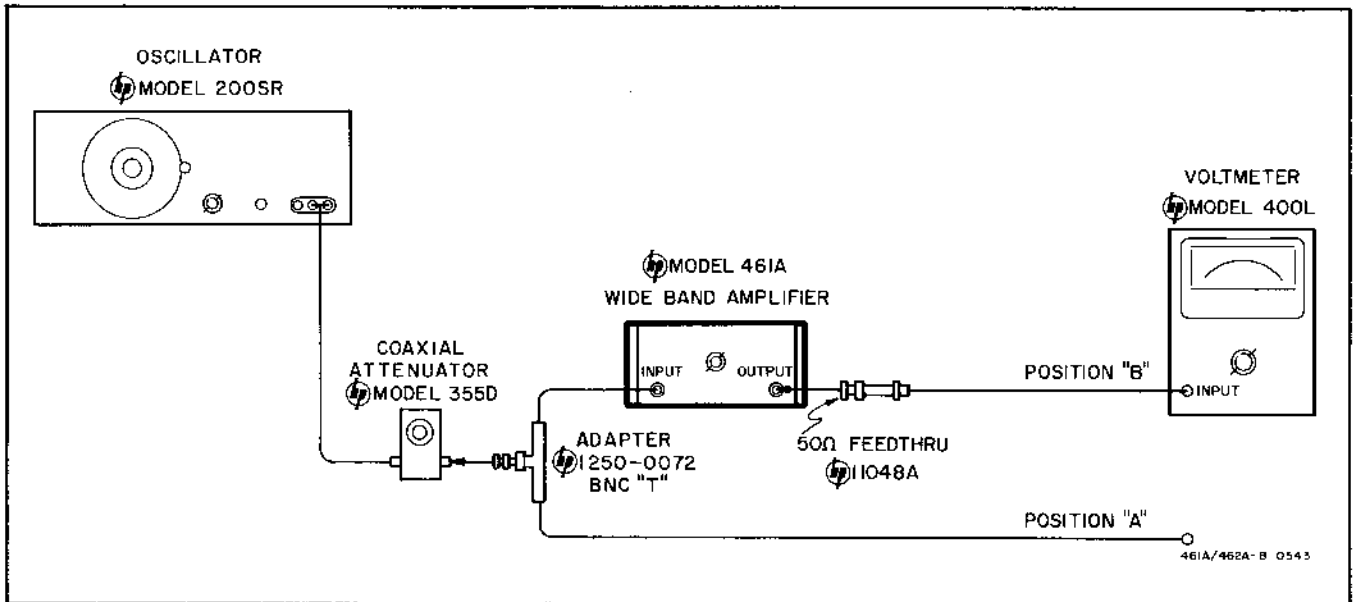

Figure 5-1. Gain Check Setup
a. Connect 461A as shown in Figure 5-1 with the ac voltmeter connected to position A.
d. Set the Model 461A GAIN (DB) control to 40 db.
a. Connect the 461A as shown in Figure 5-1.
e. Set the 461A GAIN (DB) switch to 40 db, and connect the voltmeter to position B.
e. Set the 461A GAIN (DB) control to 40 db and connect the voltmeter to position B. The voltmeter should read -10 db ± 0.5 db. If not, change the value of A3R18 until the voltmeter does indicate -10 db ± 0.5 db. The value of A3R18 is typically 4.7Ω to 10Ω .